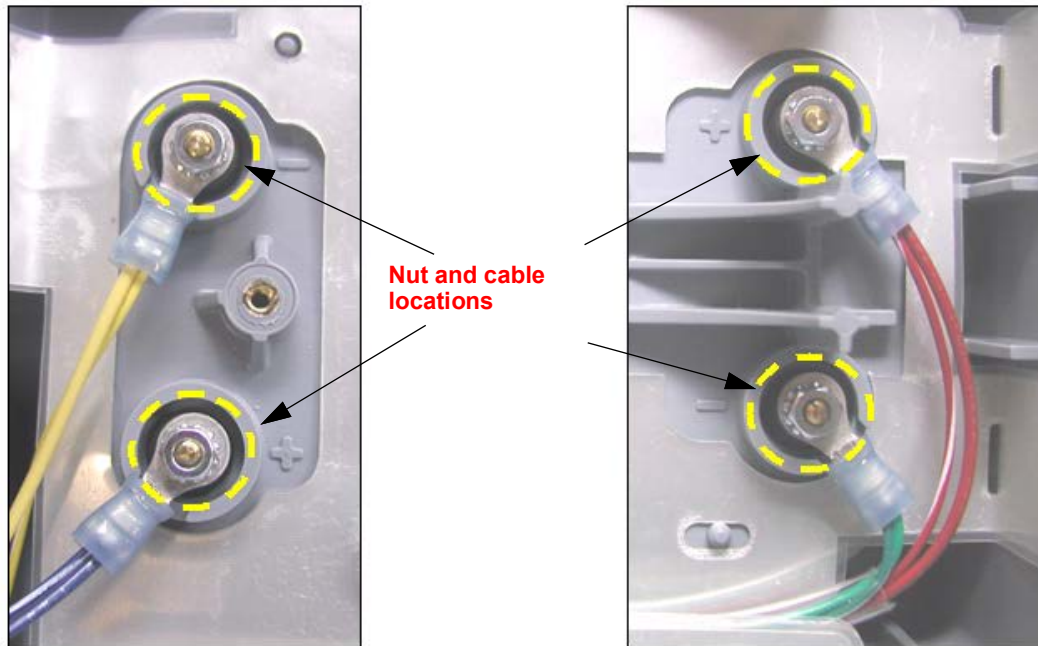

Figure 8.110—Power PCB cable nut and cable locations
Refer to Figure 8.110 on p. 335 and Figure 8.99 on p. 305.
2. Connect terminals P43 and P44 at Battery Well 1, and P45 and P46 at Battery Well 2 and replace the four Kep nuts (REF F21) (torque to 4.0 in-lb using 1/4" socket and drive adapter). See Figure 8.110 on p. 335.